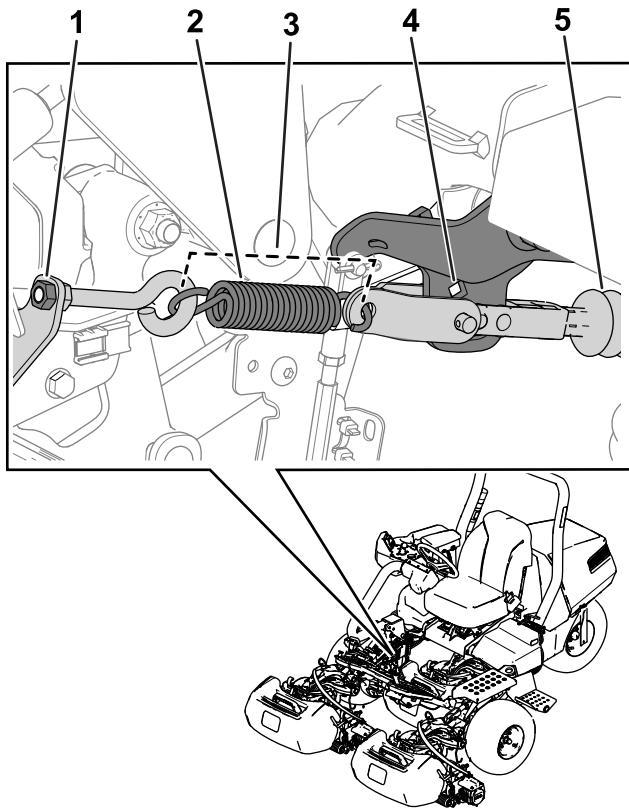

Figure 37
Note: Refer to Figure 37 for this procedure.
5. Release tension on the spring by loosening the nut that secures the eyebolt to the spring bracket (Figure 37).
3. Install the spring as shown in Figure 37.
4. Tighten the eyebolt nut so that the spring length is 11.4 cm (4.5 inches) when installed (Figure 37).